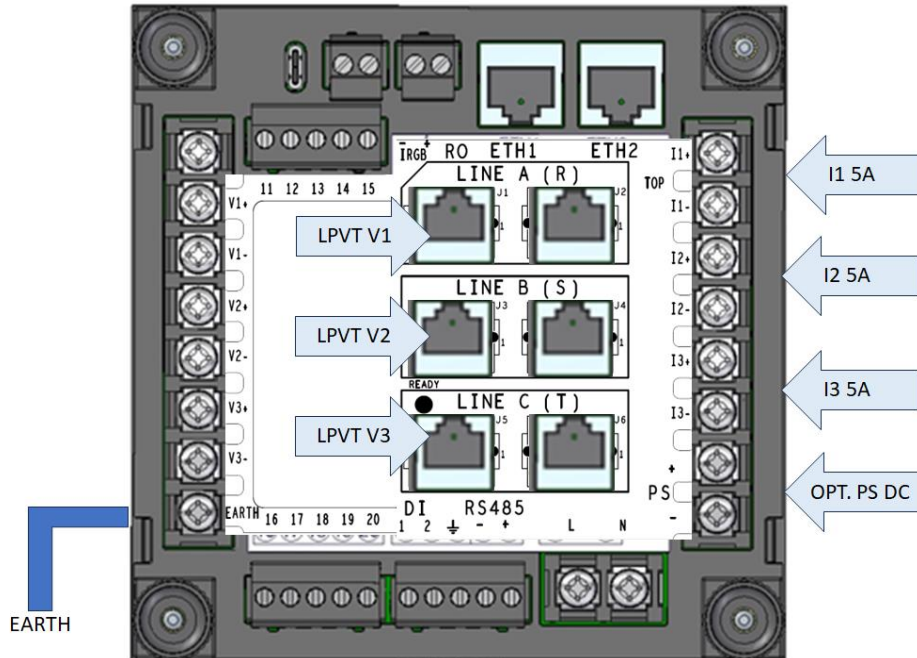

Figure 6-4: (adapter panel colour may be green or black)
The PM17X versions for interfacing the LPVT sensors are equipped with 6 RJ45 inputs (figure 6-4, below), two for each phase: current + voltage, or making use of just one socket, in case of a combined sensor.
- The EARTH wire must be at least 4 mm² square section connect to dedicated screw as shown on Figure 6-4.